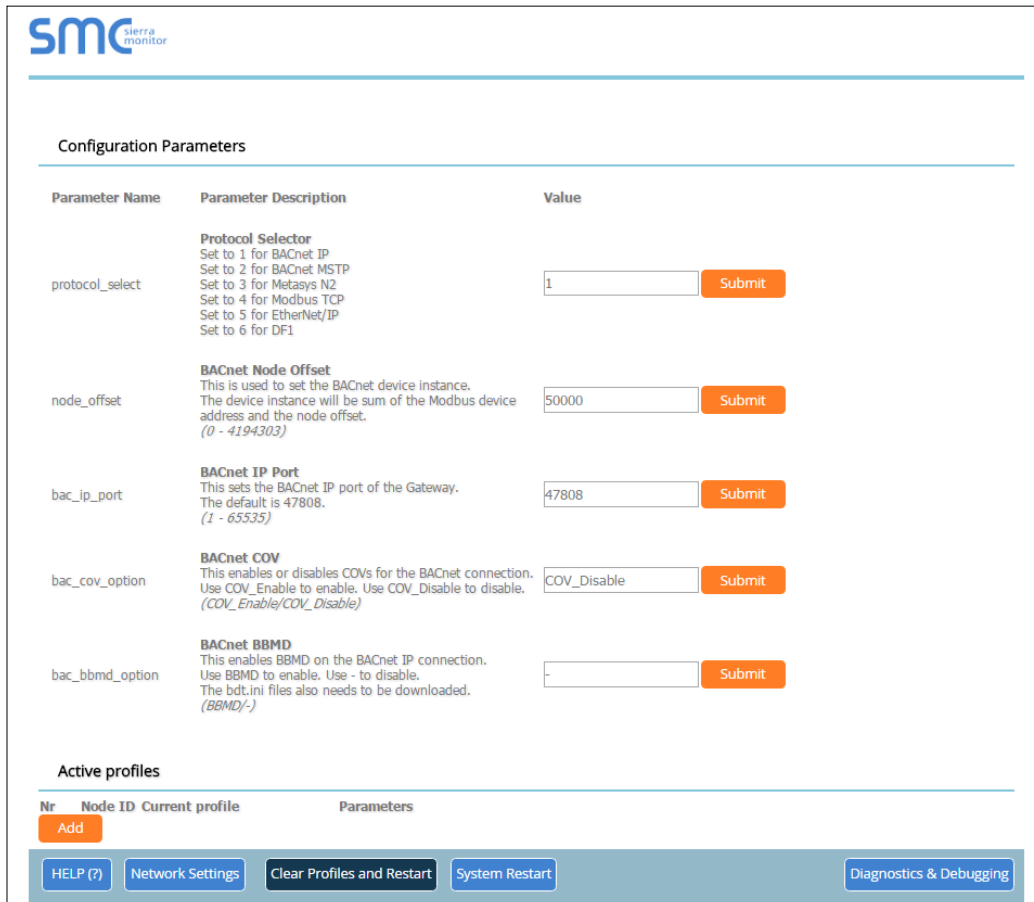

Figure 9: Web Configurator Showing no Active Profiles
- The Active Profiles section lists the currently active device profiles, including previous Web Configurator additions. This list will be empty for new installations, or after clearing all configurations. (Figure 9)